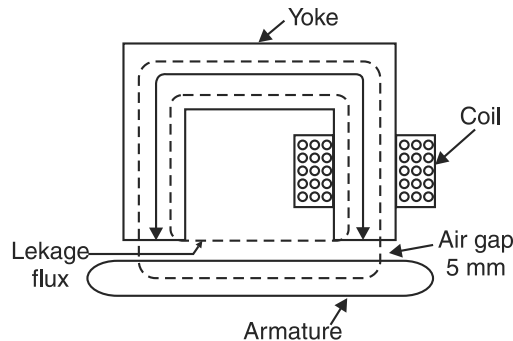

Fig. 8.30
**Example 8.23.** Fig. 8.30 shows the cross-section of a simple relay. Calculate the ampere-turns required on the coil for a flux density of  $0.1 \text{ Wb/m}^2$  in the air gaps from the following data :